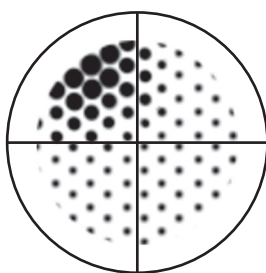

Fig. 5
- (i) Turn the centering knob ③ (the upper knob) to adjust the image on U-CST to be the brightest.
- (ii) Turn the centering knob ④ (the lower knob) to adjust the image on U-CST to be the brightest.
- (iii) Turn the collector lens focus knob ② to bring only a part of light to be remarkably bright. (See Fig. 5).
- ☉In actual, the bright part may not necessarily be displayed in the upper left area as shown in Figure 5.
- (iv) Turn the centering knob ③ and ④ to adjust the center of the cross lines of U-CST to be the brightest.